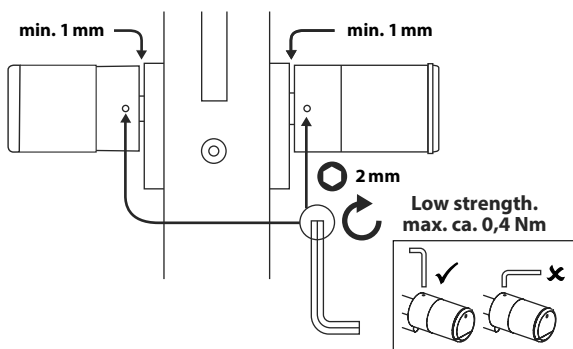

Fig. 10
- ⑦ Screw the grub screws back into the two knobs (Fig. 10).